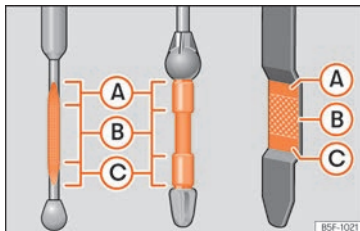

Fig. 232 Engine oil dipstick.
- Then pull it out once more and check the oil level »» **Fig. 232**. Top up with engine oil if necessary.
- When the oil level reaches at least zone »» **Fig. 232 (B)**, unscrew the engine oil filler cap carefully »» **ⓘ**.
If the oil level is above area »» **Fig. 232 (A)**, do not start the engine. This could result in damage to the engine and catalytic converter. Contact a specialised workshop.
The oil level must never be above zone »» **Fig. 232 (A)**. Otherwise oil can be drawn in through the crankcase breather and leak into the atmosphere via the exhaust system.